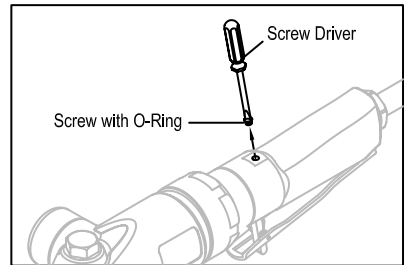

Figure 3
2. Remove the screw using a screw driver. (See Fig. 3)